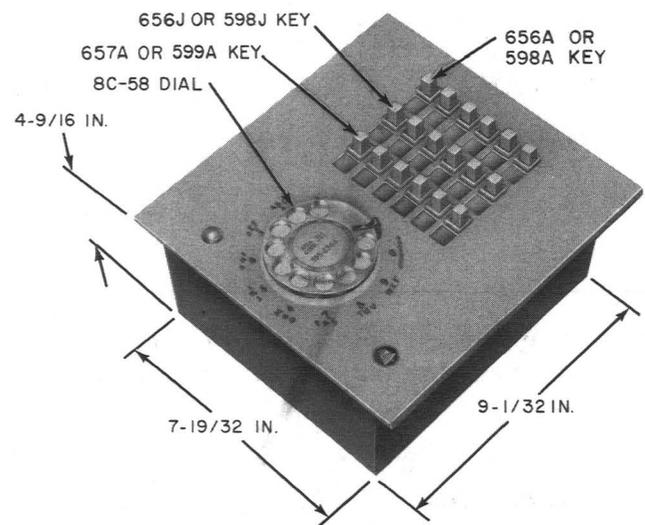

Fig. 3—12A or 14A Apparatus Unit
2.05 The 12-, 14-, 31-, and 32-type apparatus units are designed for flush mounting in a desk or table. Follow local instructions concerning arrangements with the customer for installing these units. Required size openings are shown in Fig. 3 and 4.